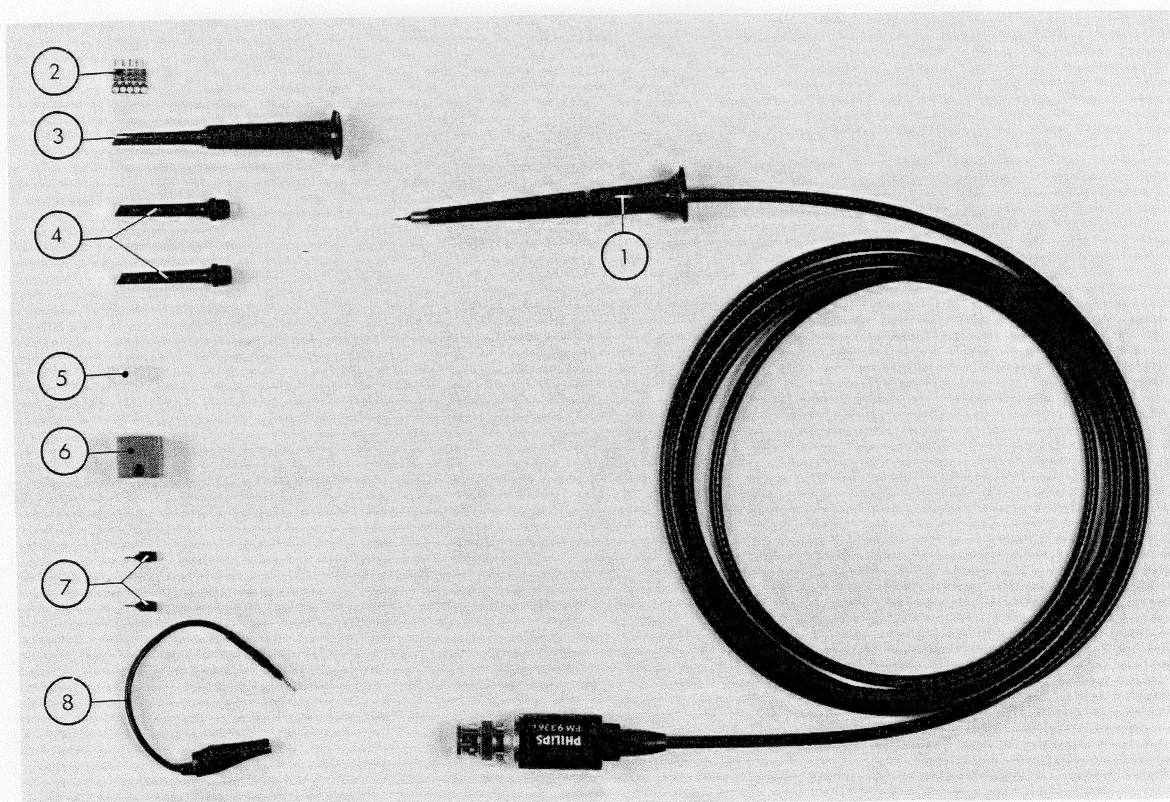

Fig. 3.16. Attenuator probe set PM 9336 (PM 9336L)
1 probe assembly	Fig. 3.16. item 1
5 soldering terminals	Fig. 3.16. item 2
1 test hook	Fig. 3.16. item 3
2 spare test hook sleeves	Fig. 3.16. item 4
1 protective cap	Fig. 3.16. item 5
1 probe holder	Fig. 3.16. item 6
2 probe tips	Fig. 3.16. item 7
1 earthing cord	Fig. 3.16. item 8